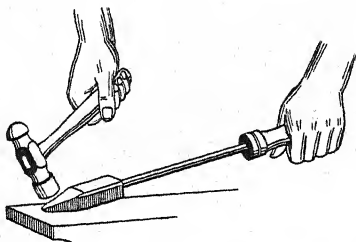

Figure 98.—Forging a soldering copper.
4. Holding the copper on an anvil, forge it to the required shape by striking it with a large hammer (see figure 98).